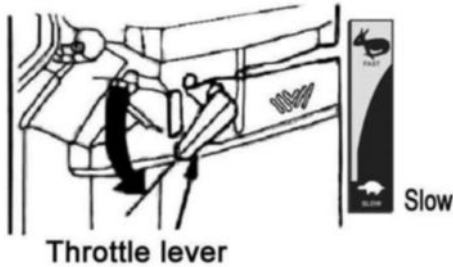

Fig. 16
1. Push the throttle lever to (SLOW) slowly. (Fig. 16)